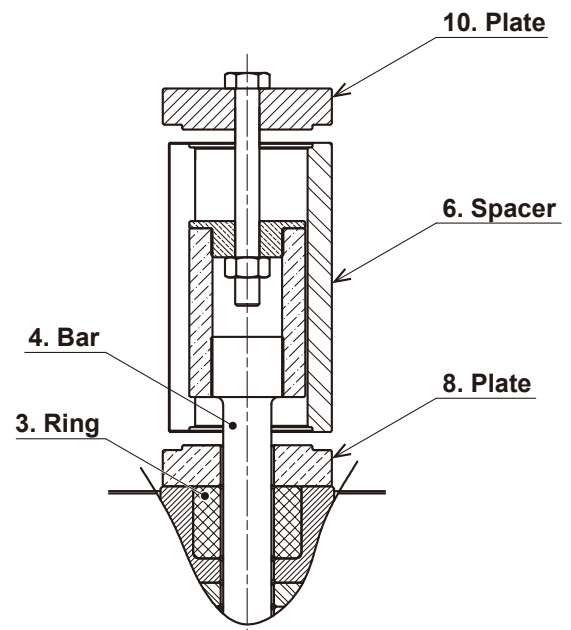

Figure 3
(3) Place the # 8 plate and # 6 spacer on the # 3 ring of the AFC-20G2 main unit, and insert the # 4 bar into the bolt hole of the # 8 plate from above. (Fig. 3)
(4) Place the # 10 plate on the # 6 spacer. (Fig. 3)
(5) After assembling, check that there is no gap or play between the plate and the spacer. If there are gaps or backlash, measurement may not be possible or the equipment may be damaged.